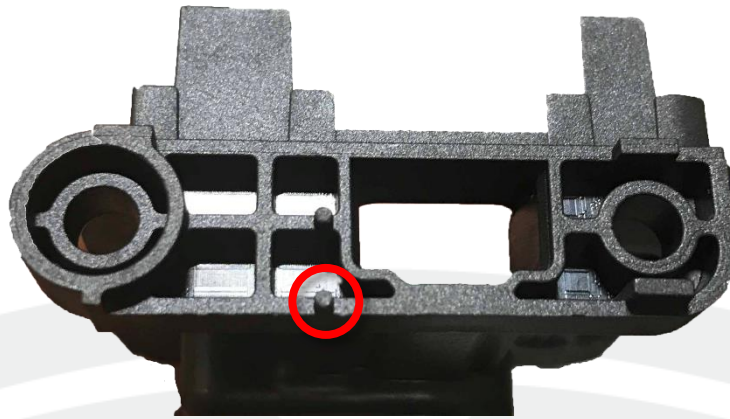

Figure 4
5. Use diagonal cutters or a razor to cut off the outer dowel pin from the new latch actuator carrier, and then file the area as needed (Figure 4).